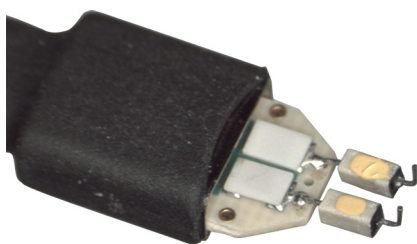

Figure 92 N2836A ZIF Probe Head
- 2 Prepare the N2836A / MX0109A solder-in probe head for connection to the PV fixture as shown in **Figure 92**. Shape the leads as shown.